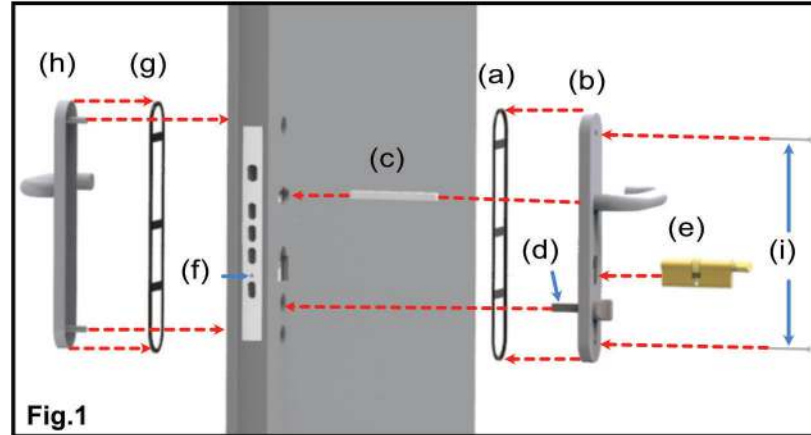

Fig.1
1. Stand the door up vertically and open the door. Remove the plastic packers from on top of the door and the threshold. Fit the hardware as detailed below (fig.1):